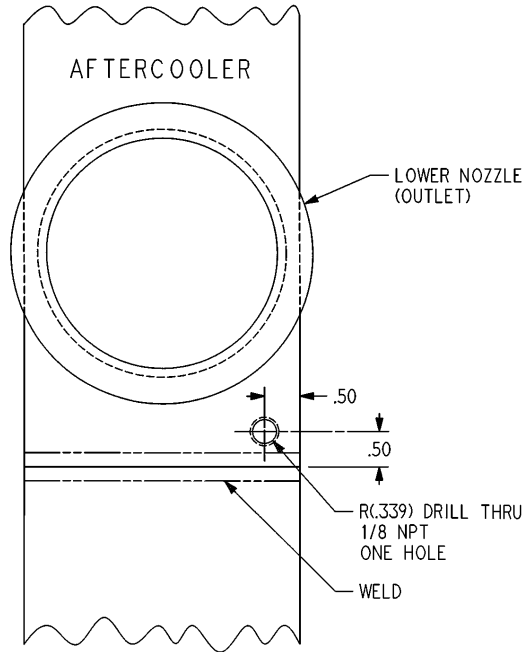

FIGURE 5-3 – COOLER DRAIN DETAIL
**AFTERCOOLER PIPING** – At shutdown of the system, all units should be drained completely of condensate if there is any possibility of freezing or corrosion damage. To help remove the condensate, the cooler may be tapped per FIGURE 5-3 and a drain cock installed. After opening the drain cock, blow air into the cooler from a connection on the opposite side of the cooler. At the same time the connection on the drain side of the cooler should be plugged. The drain cock should be left open until the machines are ready for start-up.